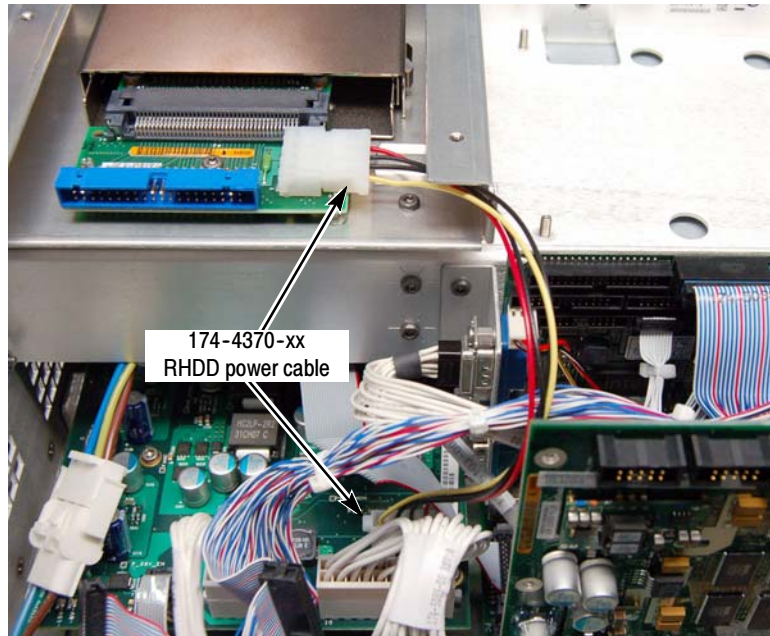

Figure 9: Installing the power cable
5. Connect the RHDD power cable (174-4370-xx) between J6 on the Power Conversion Board and connector P3 on the IDE Adapter board. See Figure 9.